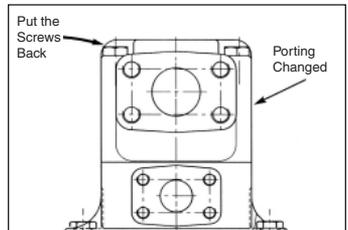

Fig. 15
5. Put the 3/8" capscrews (.500" - 13" x 4.00") back **(Fig. 15)**.